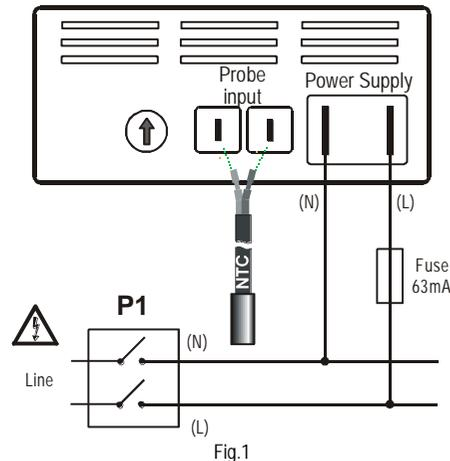

Fig.1
3. INSTALLATION - 230V OR 115V VERSION (FIG.1)
- ⚠ *Disconnect the power supply from the board by means of the panel switch (P1 in Fig.1)*
- If possible, the manufacturer suggests connecting the phase (L) to the fast-on on the right and neutral (N) to the fast-on on the left as indicated.
4. DISCONNECTION AND PROBE SUBSTITUTION (FIG.1)
- ⚠ *Disconnect the power supply on the board where the instrument is positioned, by means of the panel switch (P1 in Fig.1)*